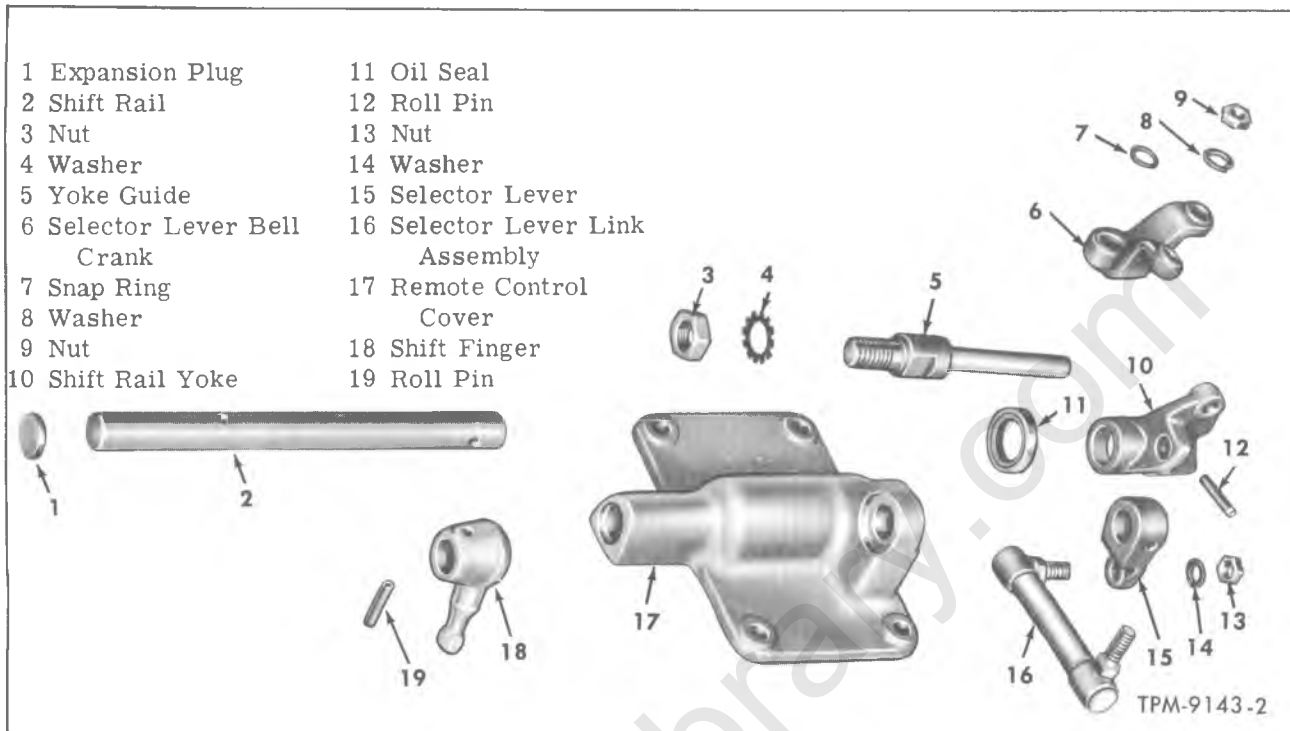

Figure 4—Remote Control Assembly (New Process 540)
NOTE: Key numbers in text refer to figure 4.
1. Press or drive shift rail yoke bushing out of bore in shift rail yoke (10, fig. 4).
1. Press or pry oil seal (11, fig. 4) out of remote control cover.